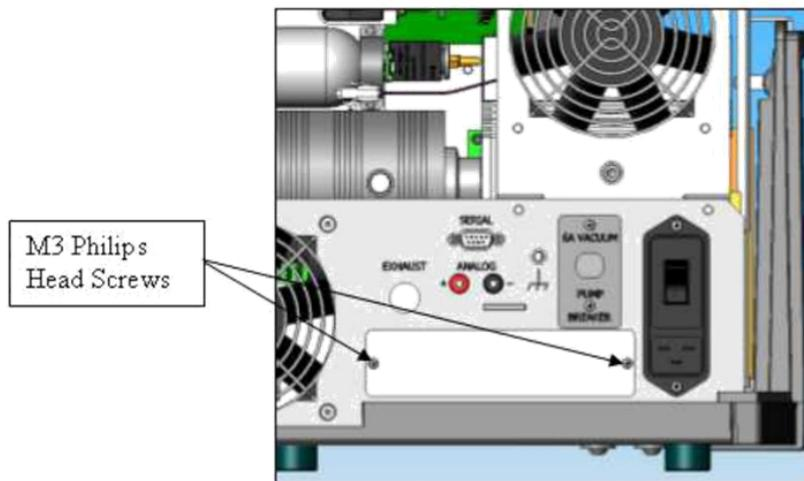

Figure 2: Back Plate with Screws
- Remove the two back plate Philips head screws w/lock washers (Figure 2: Back Plate with Screws) and pull the blank back plate off and discard.